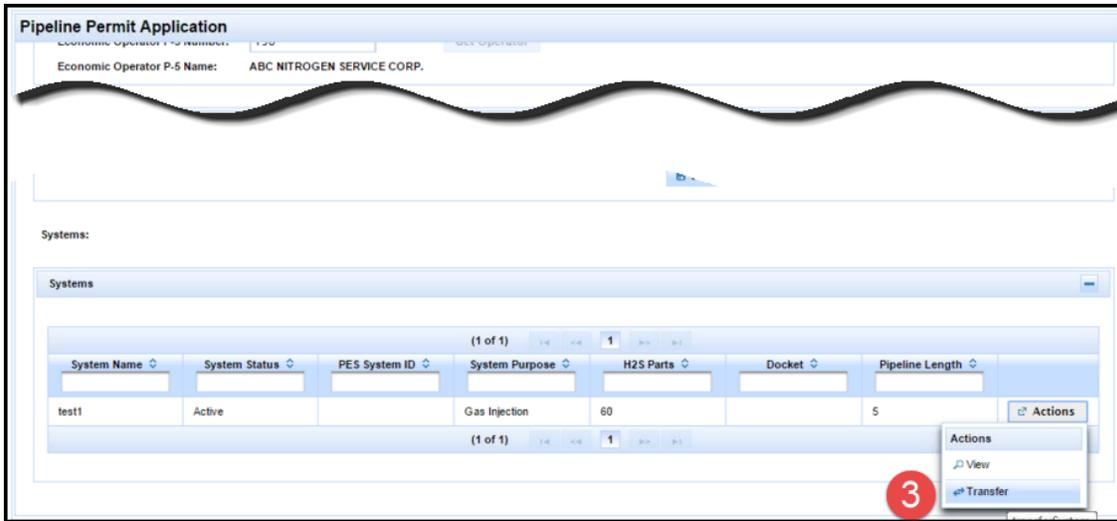

Figure 127: Supervisor System Transfer, Step 3
2. Click **Transfer** on the dropdown menu. The Permit Header tab is displayed, shown in Figure 127.